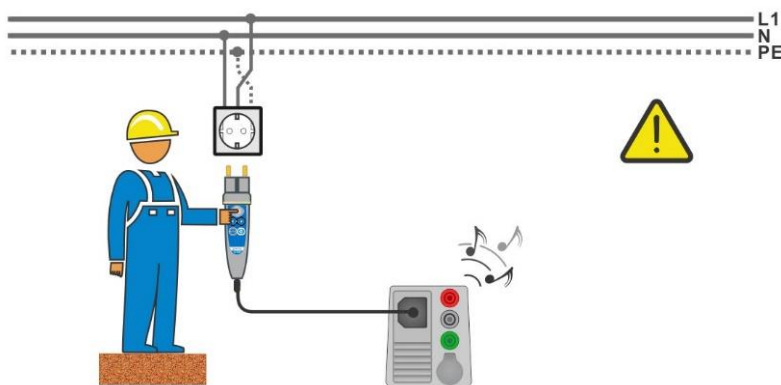
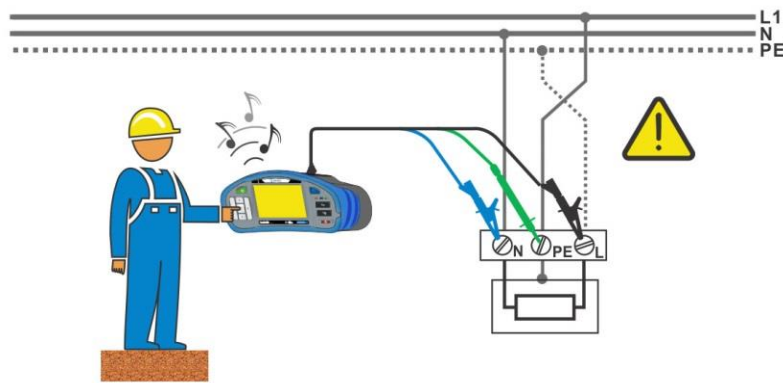

Figure 1.1: Reversed L and PE conductors (plug commander)
Figure 1.2: Reversed L and PE conductors (application of 3-wire test lead)
- ▶ Connect test leads to the object under test, see *Figure 1.1* and *Figure 1.2*.